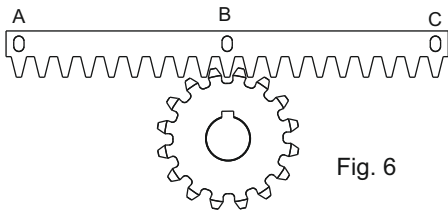
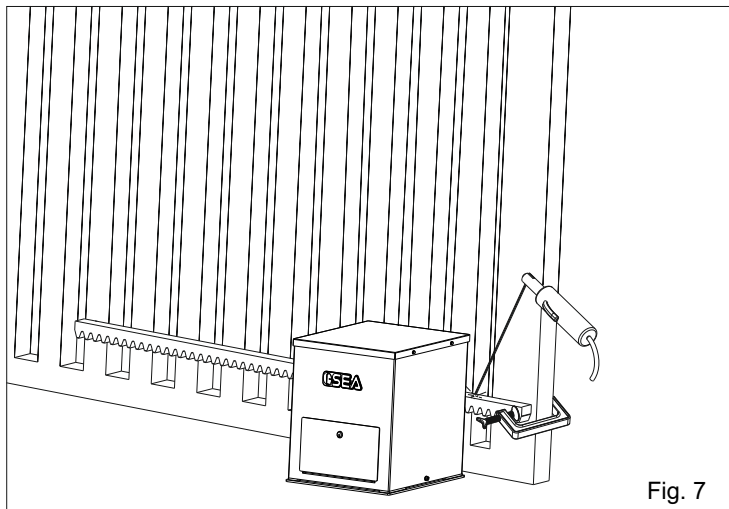

Fig. 6
Fig. 7
5.3. Lean the gear rack element on the toothed pinion of the motor so that it results parallel to the ground slideway of the gate, place it as shown in Fig. 6 and electrically weld the central pawl B to the gate structure (Fig. 7).